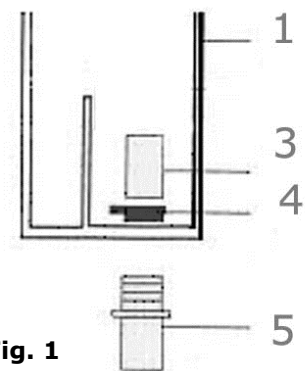

Fig. 1
1. Screw bulkhead fitting into the hole in the bottom of the overflow box (see Fig. 1).